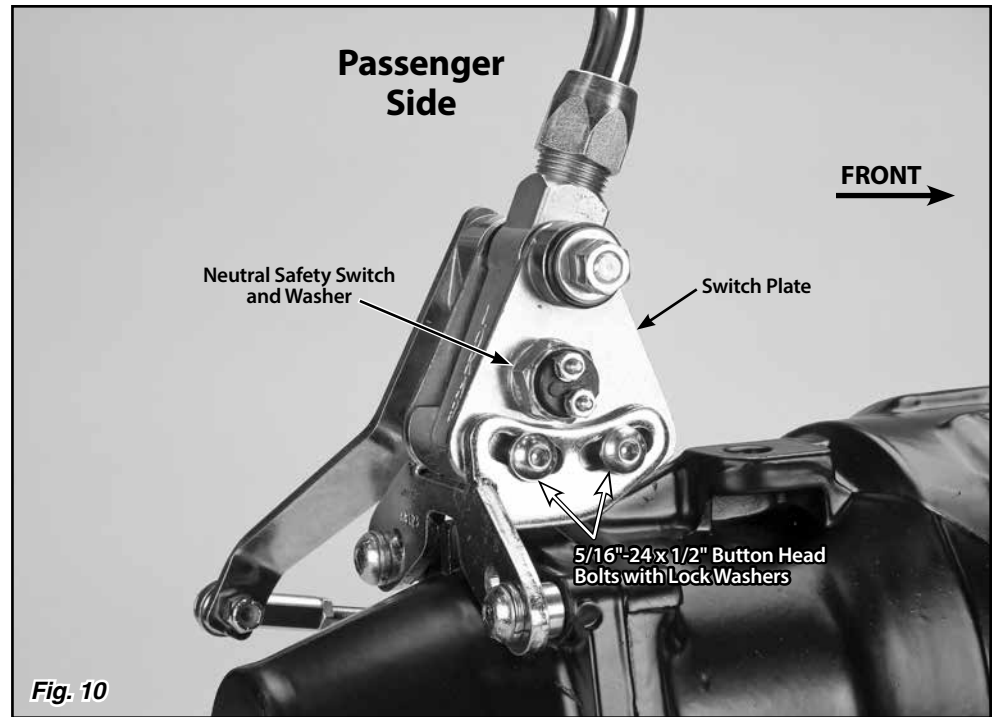

Fig. 10
Step 14: Remove the neutral safety switch and washer (**Fig. 10**) from the passenger side of the Shifter using a 7/8" wrench or socket.
Step 15: Loosen, but do not remove, the two 5/16"-24 x 1/2" button head bolts that connect the passenger side welded banana bracket to the switch plate (the bolts are in curved, slotted holes). **Fig. 10**